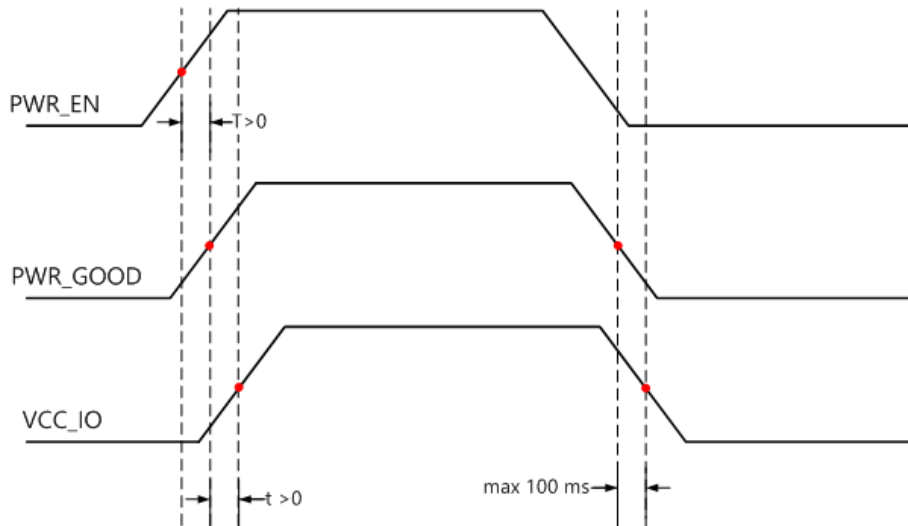

Figure 14: Power-Up Sequence - VCC\_IO in Relation with PWR\_GOOD and PWR\_EN Signals
*Do not power the VCC\_IO pins when PWR\_GOOD and PWR\_EN signals are not active. If the module is not powered, you need to make sure that the VCC\_IO voltages are disabled (for example, by using a switch on the base board, which uses PWR\_GOOD as enable signal). Figure 14 illustrates the VCC\_IO power requirements.*